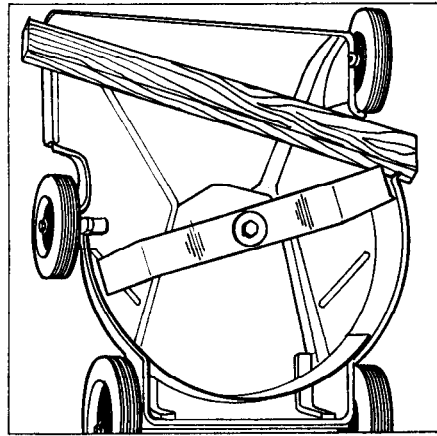

Fig. 4 Removing the blade
**Removing the blade.** When removing the blade (for sharpening or replacement) wedge it with a suitable length of wood against the deck flange so that the blade does not turn when pressure is applied to the spanner. (See Fig. 4). Notice the order in which the two metal washers and the two friction washers are fitted. (Refer to illustration of Parts).